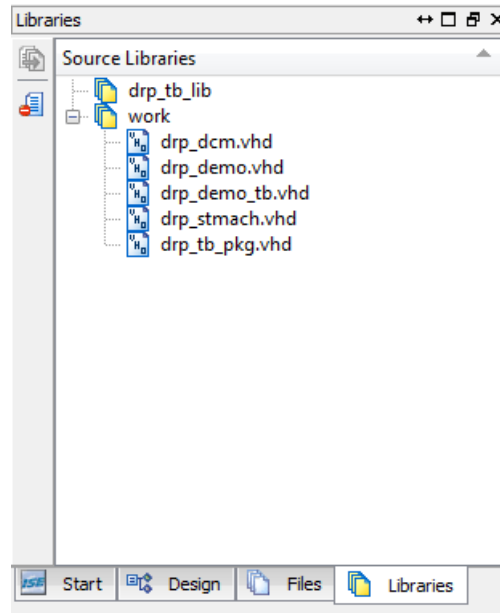

Figure 2-8: Select the Libraries Tab
1. In the Sources Panel, click the Libraries tab to switch to the Libraries Panel. (Refer to Figure 2-8.)
2. Expand the work library by clicking once on the hierarchy separator. (Refer to Figure 2-8.)